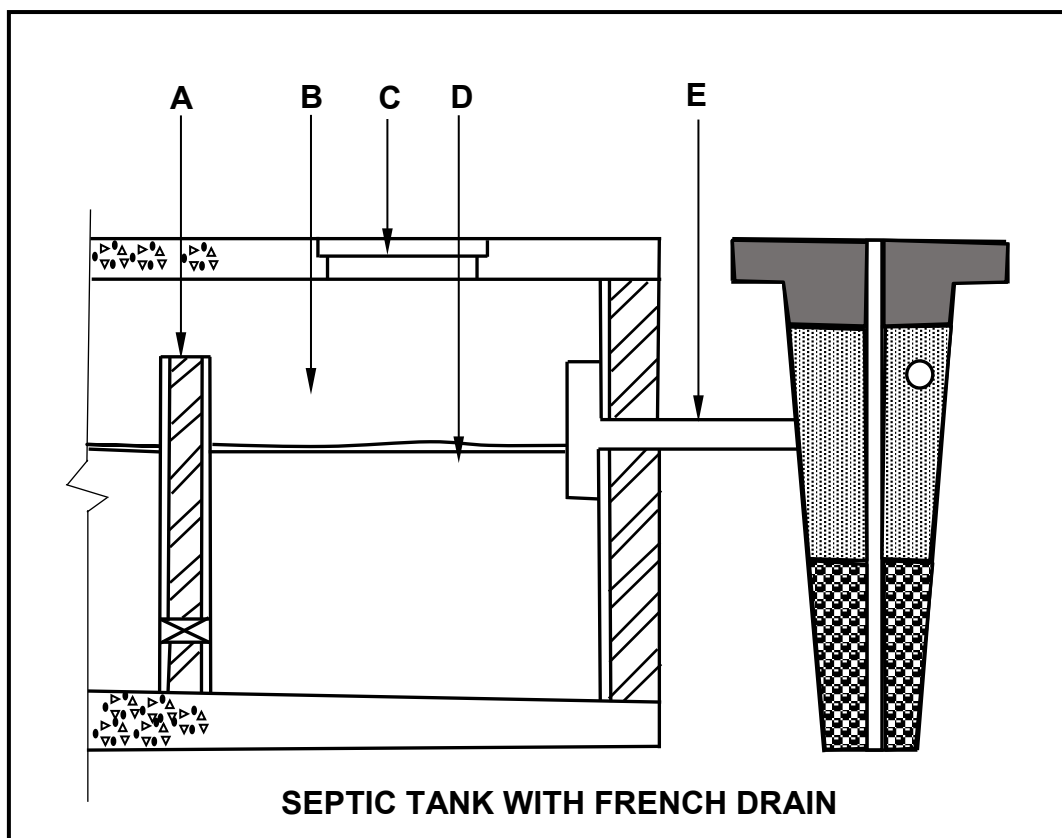

FIGURE 6.2
- 6.2 FIGURE 6.2 shows an incomplete drawing of a compartment of a septic tank with a French drain that is located in a rural area where there is no municipal sewerage system.